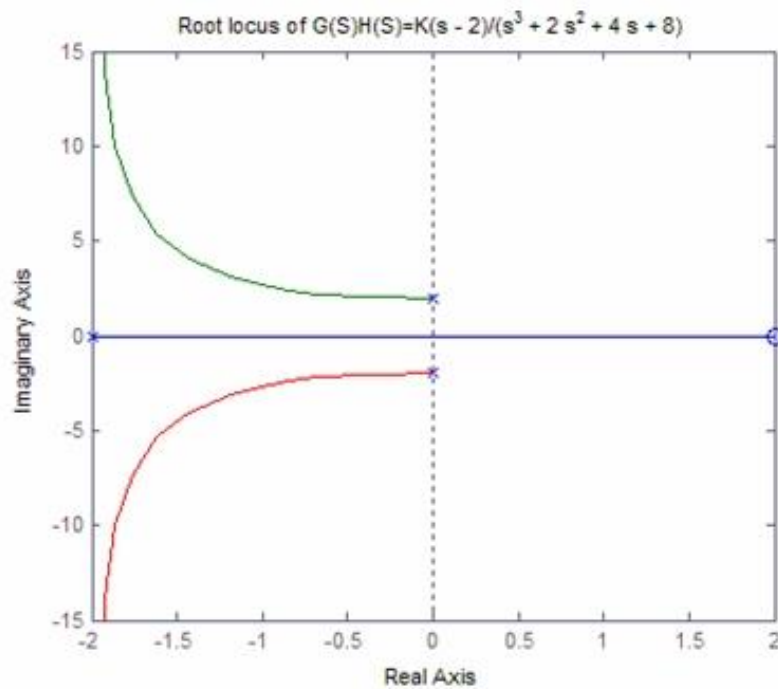

Figure 11.1a: Root locus of system for code1
- c) After executing code1 a graph (Figure 11.1a) will appear showing root locus of a system.
- d) Code2 is executed to give different values of gain (K) to the system and this time rlocus(sys,k) command is used to plot root locus with different value of gains.